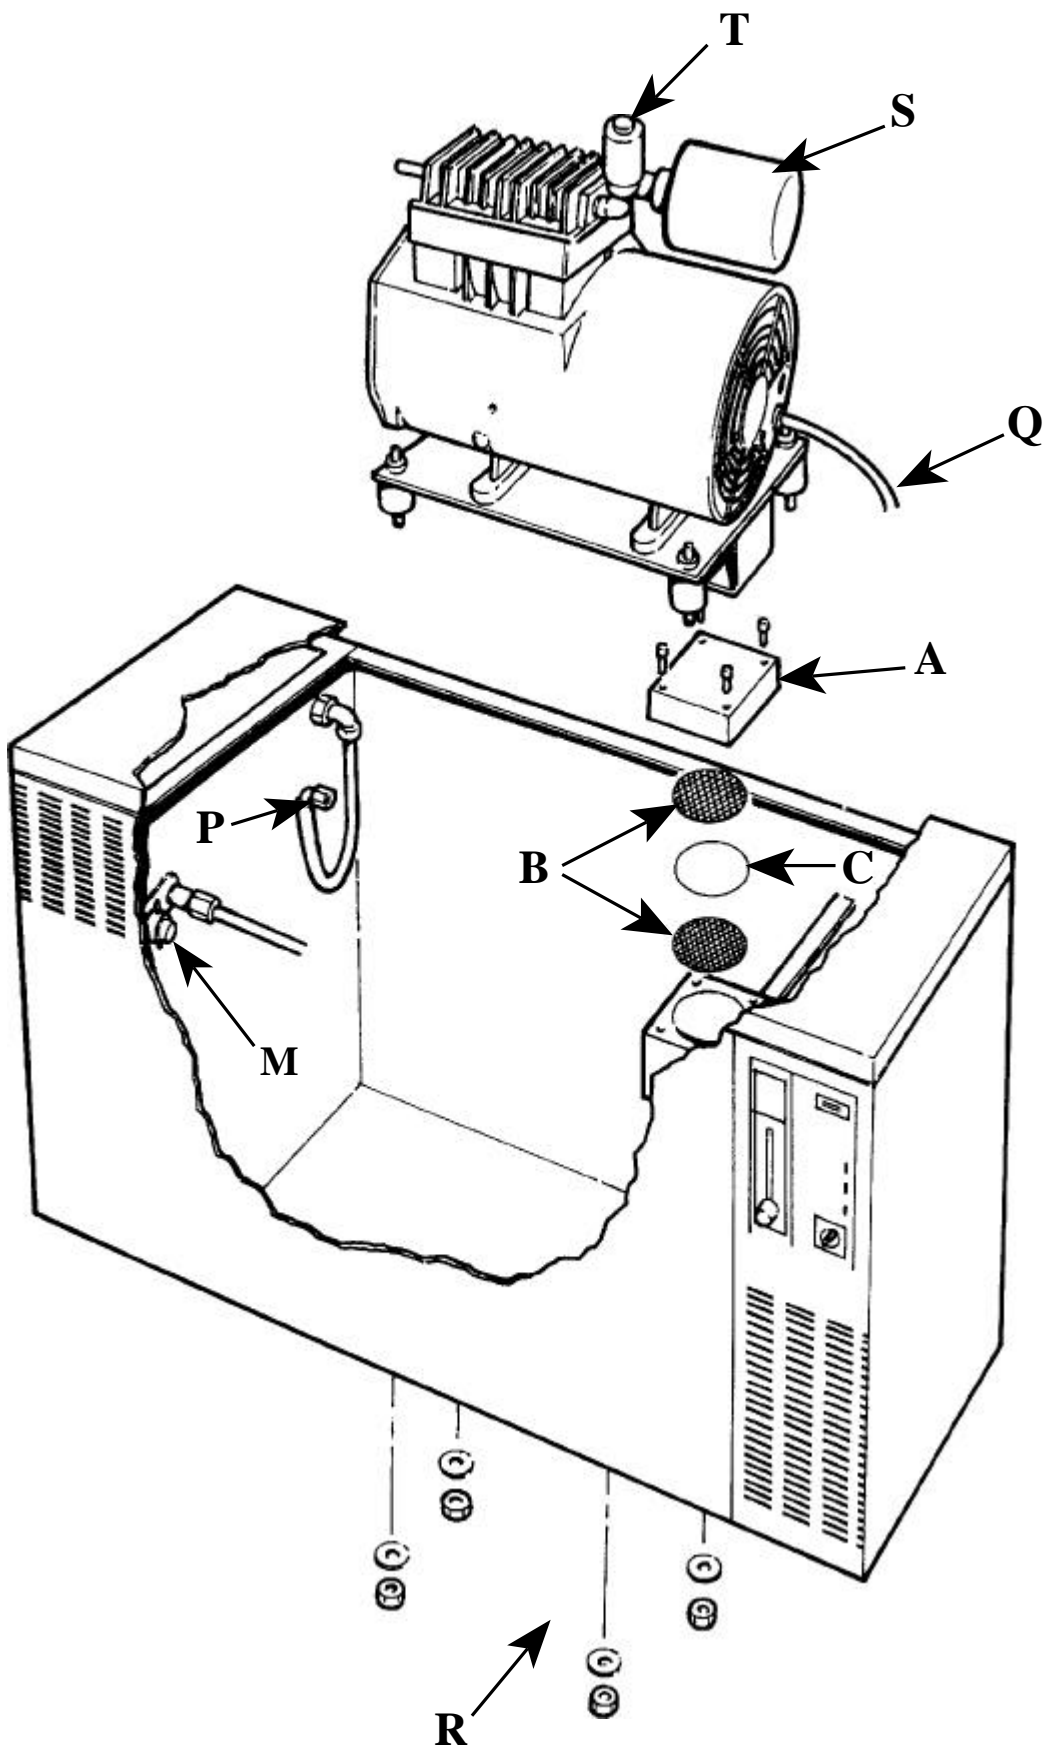

Fig 4
A manual reset thermal switch operates if the temperature inside the quiet box rises excessively for any reason. If an overheat occurs the **HOT!** lamp will flash until the thermal switch is reset. The thermal switch is mounted in the compressor compartment (see Fig 4 (M)) - press the red button to reset.
Refer to Fig 4 Page 13
Please refer to Fig 4 Page 13.